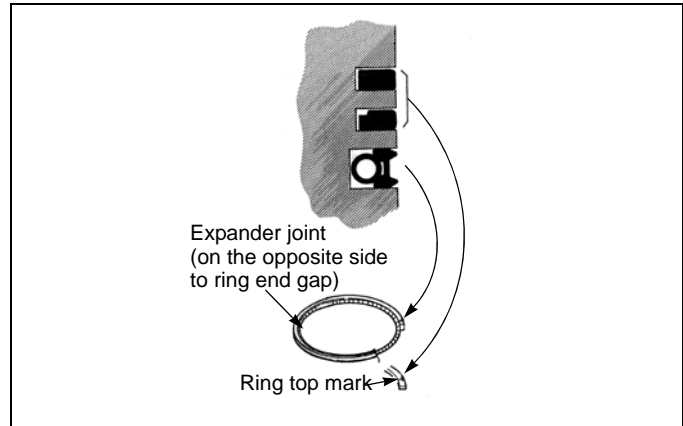

Fig. 3-18
- e. Piston ring installing procedure: Install the piston ring to the piston as shown in Fig. 3-18.